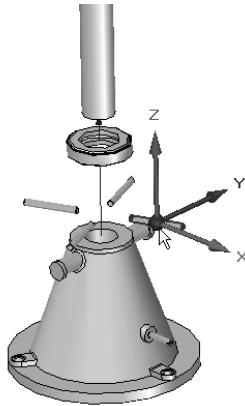

Figure 12-27 Moving the component along the z axis
2. Select any one of the instances of the Adjusting Nut Handle and choose the **Accept** button from the **Drag Component** command bar; a triad is displayed on the selected instance, as shown in Figure 12-27.